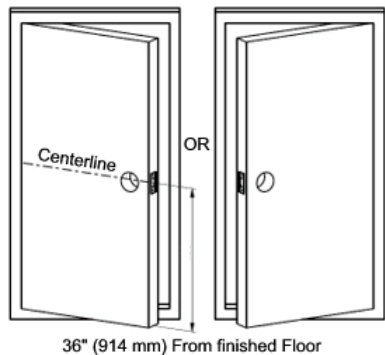

fig. 1
- 1.1 Mark centerline on door and jamb (see fig. 1).